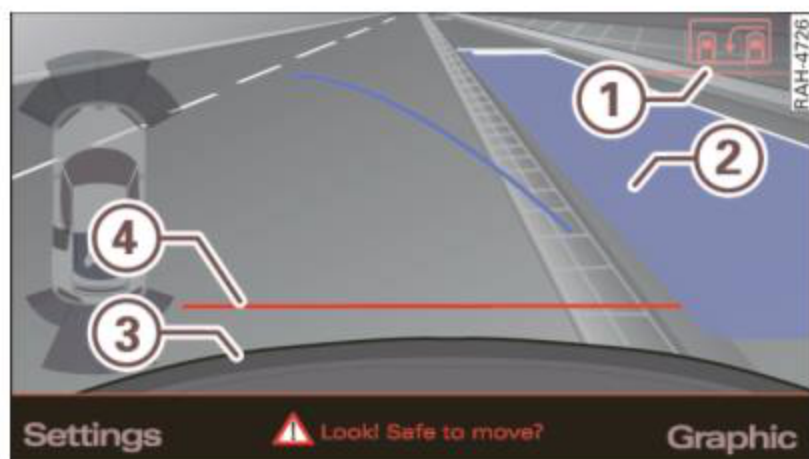

Fig. 78 Navigation system display: Blue surface aligned with parking spot
- Press the control button **1** on the navigation system ⇒ fig. 78. Parking mode 2 appears.